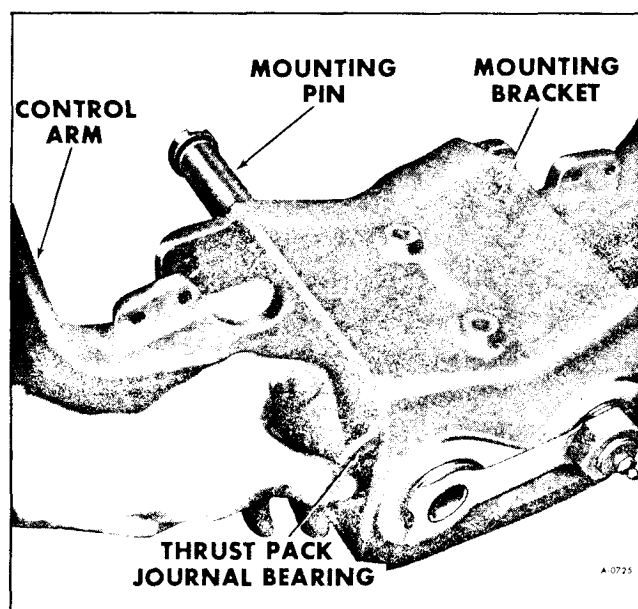

Figure 41—Installing Thrust Bearings
2. Place control arm in position in mounting bracket. Position thrust pack journal bearing between control arm and mounting bracket. (See figure 41).